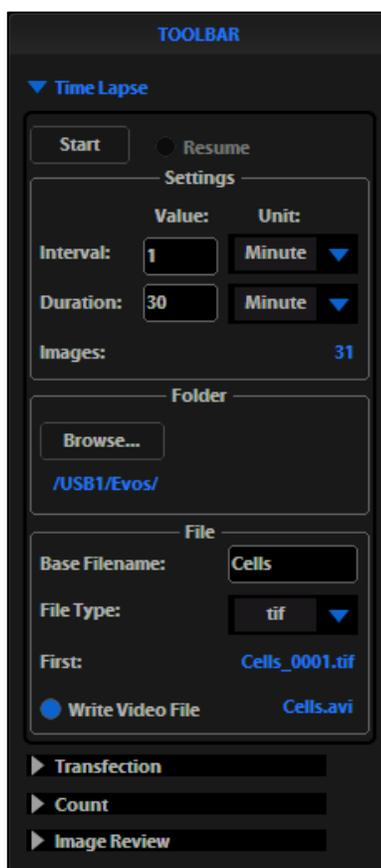

Figure 11 Toolbar: Time Lapse
**Note:** The Time Lapse feature allows you program the instrument to record time lapse images. To create a video (.avi) file, select the Write Video File option prior to running the time lapse session (lower left corner of the Time Lapse Tool bar window (Figure 11).
**Note:** After parameters have been selected, the software will calculate the approximate number of images (Figure 11).